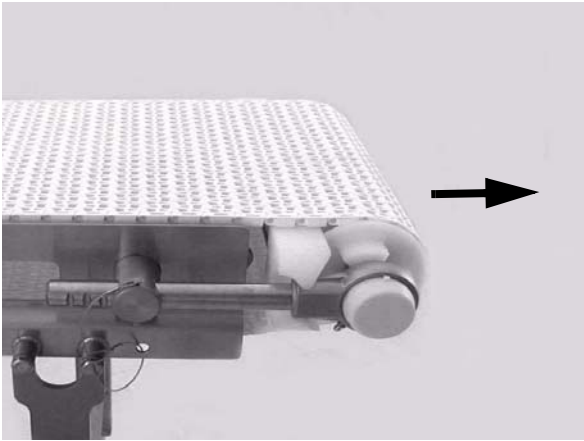

Figure 56
3. Continue extending the tension end until the belt is sufficiently tight (**Figure 56**).